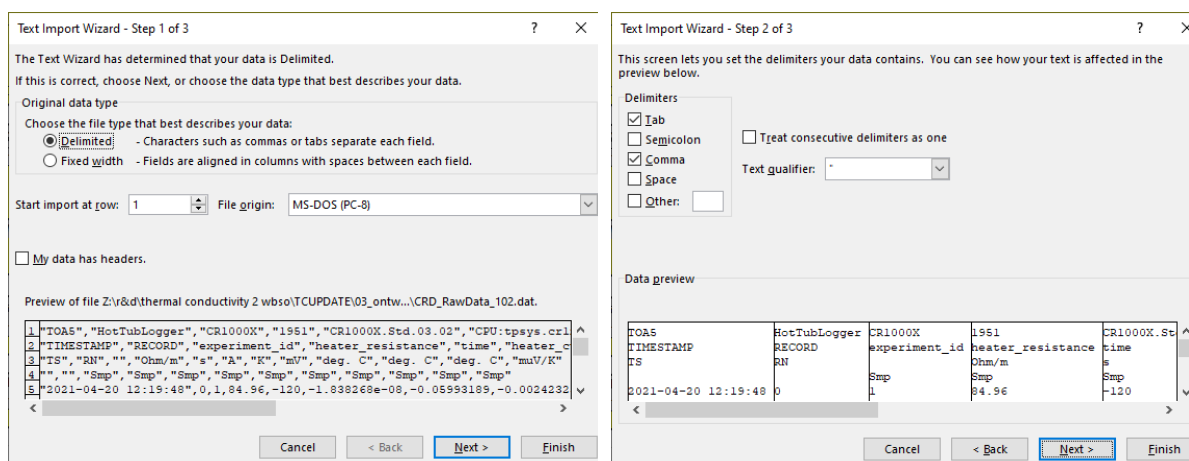

Figure 6.2.1 The first two screens of the MS Excel import wizard
2. Select the data file containing the data to be analysed and select "Open". A screen similar to Figure 6.2.1 is displayed. Ensure that "Delimited" is selected and select the "Next >" button.
3. Select the box in front of "Comma" and verify that the columns are shown separated as at the left side of Figure 6.2.1 and select the "Finish" button.
4. This opens the data file similar to Figure 6.2.1.